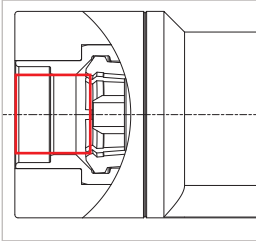

Figure 12
- ▶ Prior to this check, be sure to purge the WEH® Product with nitrogen or compressed air at the following areas (*Figure 12*):